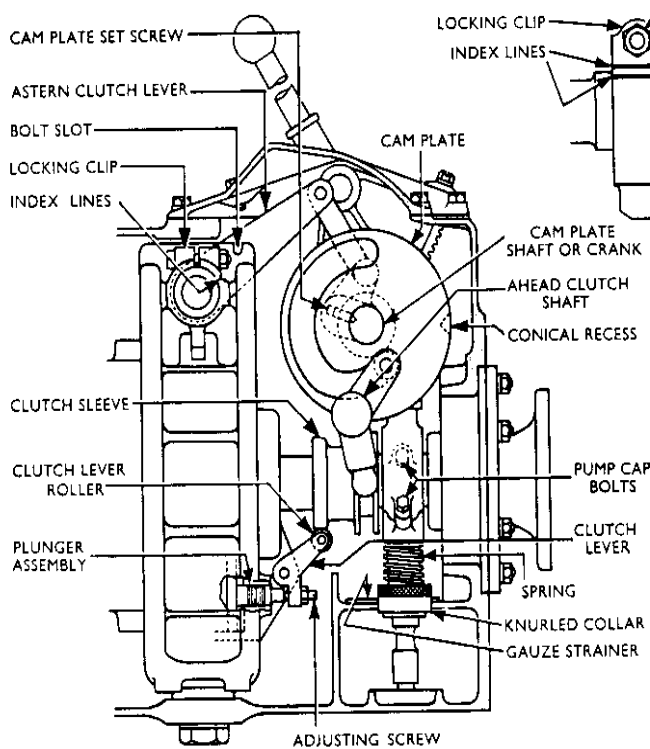

Fig. 4
10. **Adjustment of Ahead Clutch.** Refer to Fig. 4.
13. **Final Adjustment of Astern Clutch.**—Remove the bolt from the brake shoe slots, and turn the cam plate, until the astern clutch lever is in its highest position, see Fig. 4. On the locking clips will be found two lines, and the distance between these defines the necessary adjustment to load the brake shoes. Make a mark with a scribe on both adjusting nuts, that will coincide with the lower line on the collar. Do this carefully. After this, unscrew one locking clip nut, just sufficiently to enable the adjusting nut to be prised round. With the screwdriver end in one of the slots, and using the brake shoe as a fulcrum, prise the nut round, until the scribed mark, that has just been made on the nut, coincides with the top line on the locking clip. Tighten the locking clip nut to the correct torque of 500 lb. in. Repeat the operation on the other adjusting nut. This completes the astern clutch or brake adjustment.